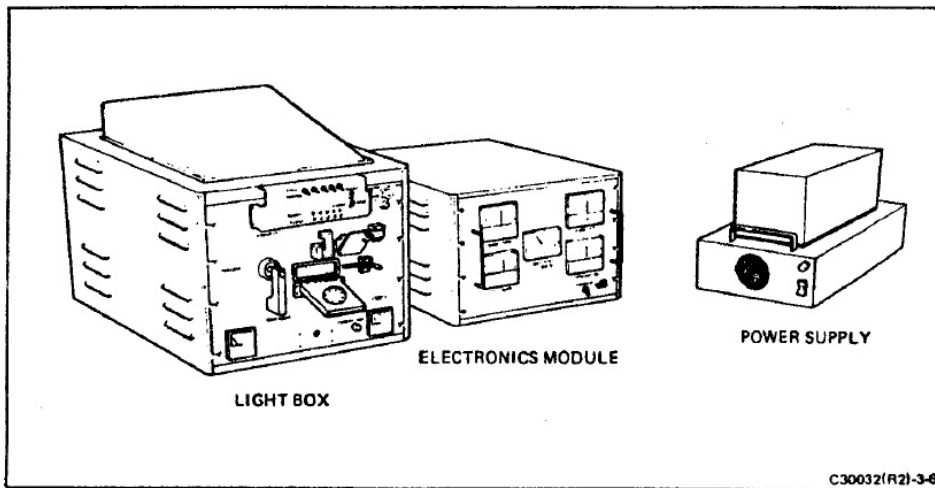

FIGURE 3-6 COMPREHENSIVE TESTER
3. Comprehensive Testers (Figure 3-6 and 3-7)
There are two models of Comprehensive Testers available for semi-automatic testing of the SX-70 camera. The earlier model, Comprehensive Tester Model A, consists of three interrelated units; the light box, the electronics module, and the power supply (Figure 3-6). Comprehensive Tester Model